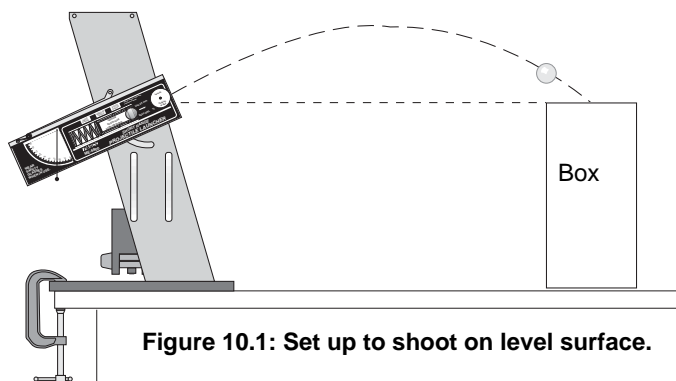

Figure 10.1: Set up to shoot on level surface.
- Starting at the muzzle of the Launcher, measure off each set of x and y distances and place a ring clamp on a stand at each position corresponding to one-tenth of a second (see Figure 10.1).